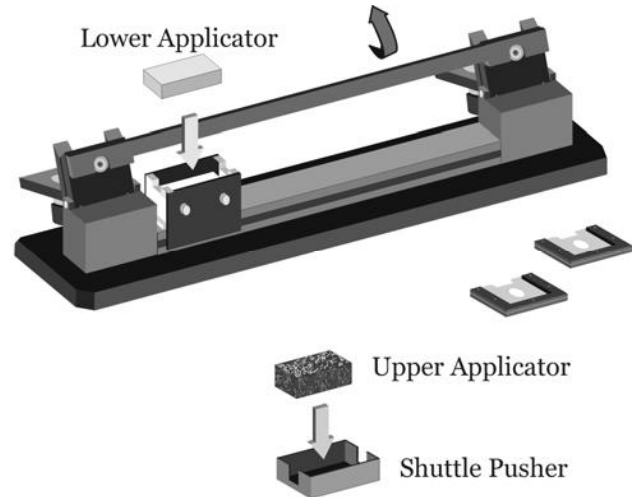

Figure 4. Preparation
5.4.5 As shown in **Figure 4**, insert the lower (harder) applicator in the shuttle and slide the shuttle to the cable end of the unit and insert the upper applicator in the shuttle pusher.